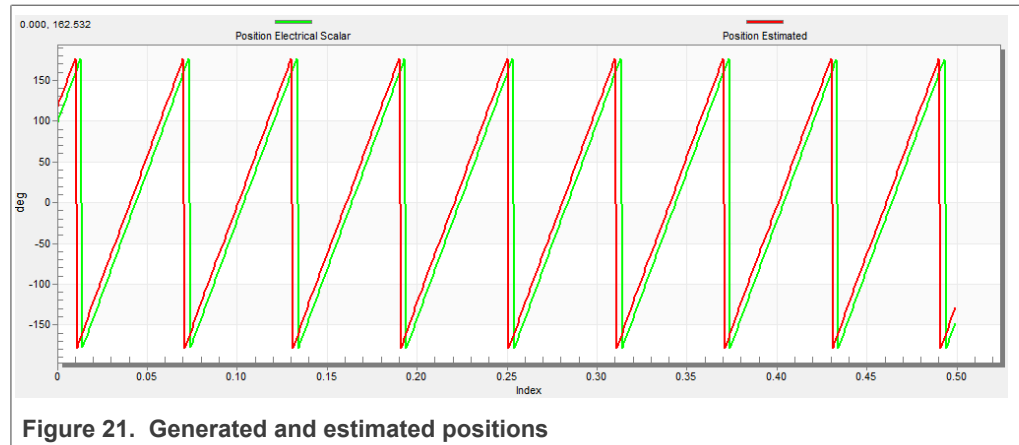

Figure 21. Generated and estimated positions
- Select the “Position” recorder to check the observer functionality. The difference between the “Position Electrical Scalar” and the “Position Estimated” should be minimal (see Figure 21) for the Back-EMF position and speed observer to work properly. The position difference depends on the motor load. The higher the load, the bigger the difference between the positions due to the load angle.